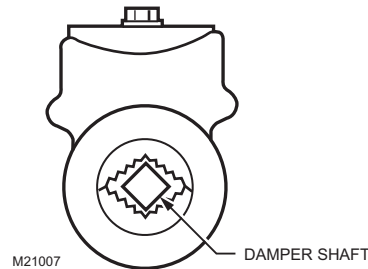

Fig. 3. Proper mounting to square damper shaft.
- See Fig. 3 for proper mounting to a square damper shaft.